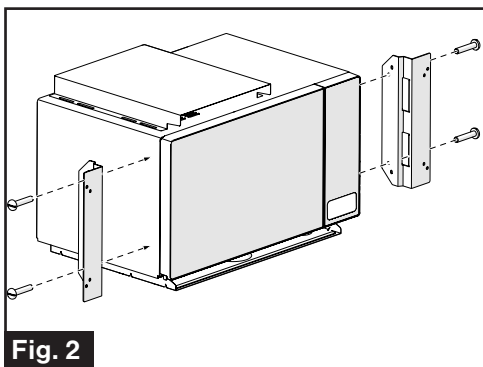

Fig. 2
2. Attach the left and right metal brackets to the microwave oven and fix with 4pcs of PMA screws M4x12mm provided. (Fig. 2)